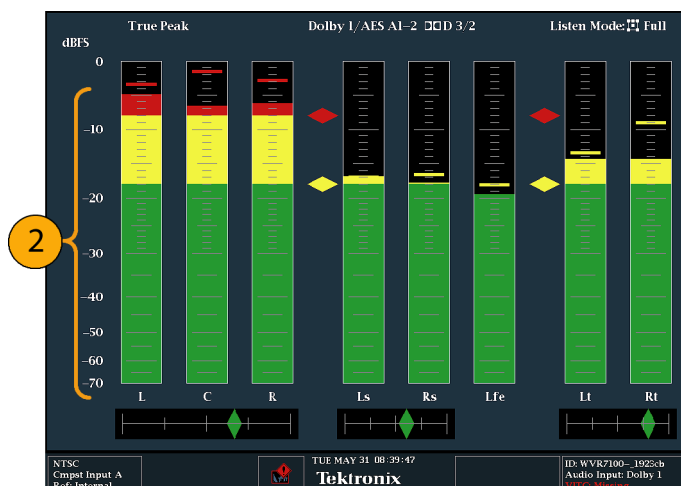

Figure 56: Audio levels
2. Check the level meter bars for current audio levels, which are displayed according to the selected meter ballistics. Each bar displays three colors. (See Figure 56.)